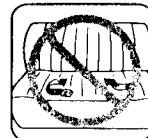

Figure 7.
- 4). BELTS ANCHORED FORWARD OF SEAT CREASE (Fig. 7). OK to use.